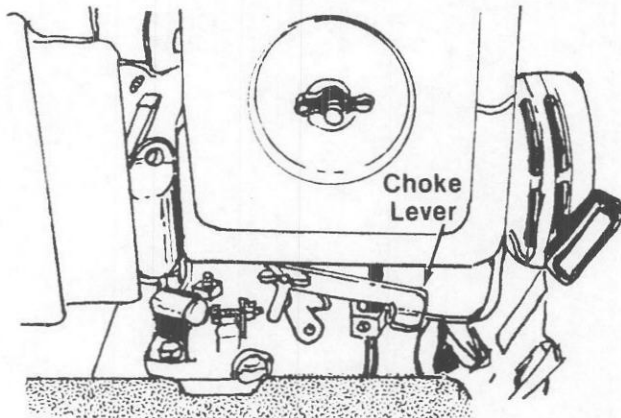

FIGURE 21.
5. Move choke lever to "CHOKE" position. See figure 21.